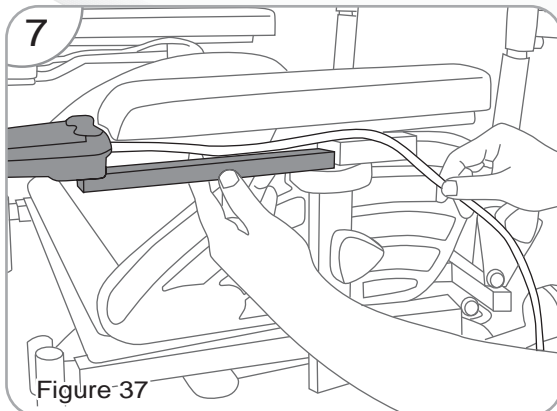

Figure 37
7. Install lighting controller's bracket. (See Fig. 37).